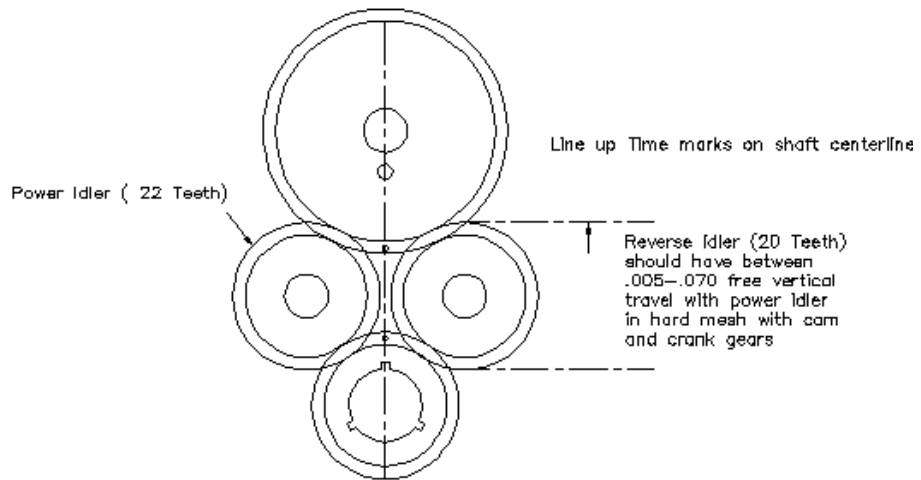

Figure 1
3. The engine is timed with the timing marks facing one another just as you would with a chain and sprocket drive. (Refer to Figure 1)
4. With the #1 piston at TDC line up timing marks on engine centerline (See Figure 1) slide idler gears in place with large gear on the passenger side of engine. On 351W and late model 302 engines the long pin in the idler assembly must be changed with the shorter pin supplied in the set. On some 351M and 400M blocks most of long pin must be ground off to allow proper clearance under the timing cover.